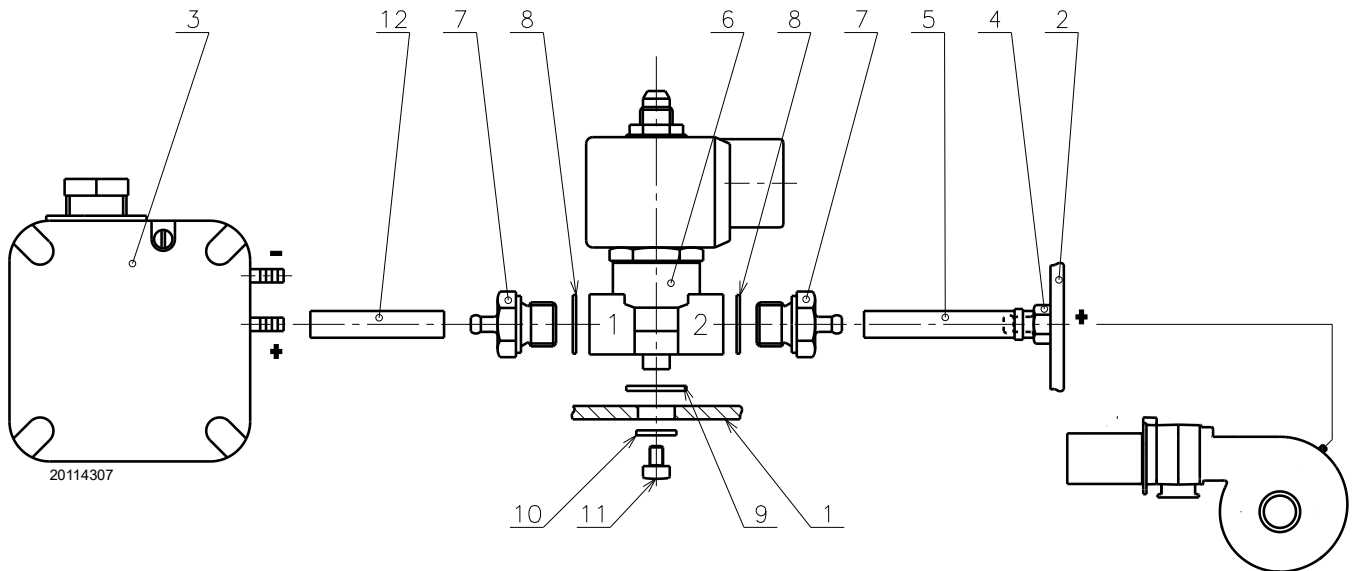

Fig. 1
- Assemble the couplings 7)(Fig. 1) on the valve 6), interposing the seals 8), then fix the valve using screw 11) interposing the washers 9) and 10) supplied as standard equipment (see fastening examples);